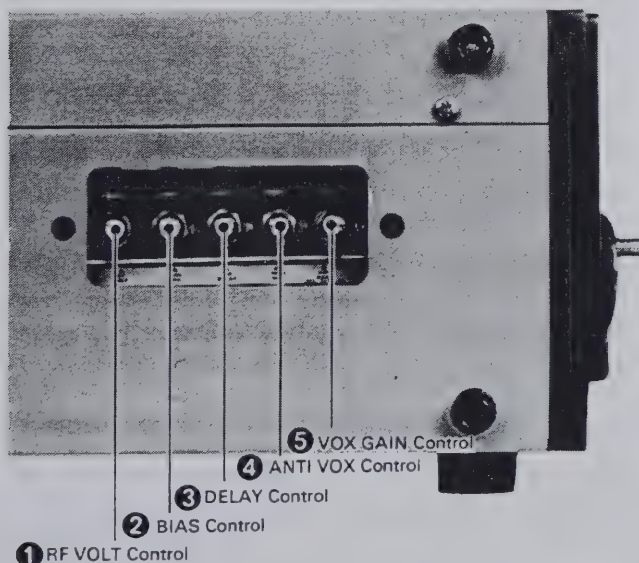

Fig. 6 Side Panel Controls
■ RF VOLT CONTROL (1 on Figure 6)
■ BIAS CONTROL (2 on Figure 6)
■ DELAY CONTROL (3 on Figure 6)
■ ANTI VOX CONTROL (4 on Figure 6)
■ VOX GAIN CONTROL (5 on Figure 6)